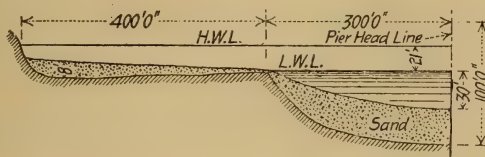

FIG. 9.
1. Given conditions as shown in the subjoined sketch (Fig. 9), design a wharf alongside of which ships 400 ft. long, drawing 28 ft. of water, can lie.